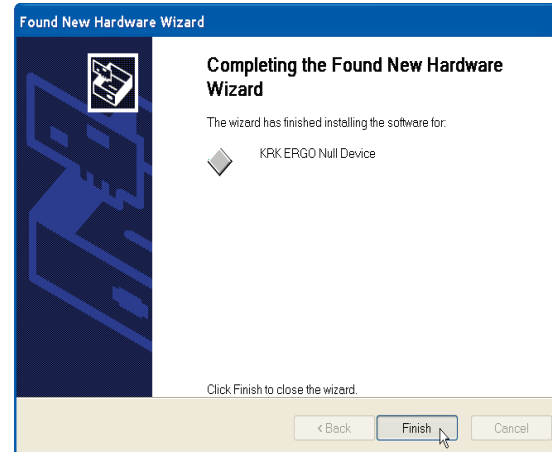

Figure 3.15
10. Click **Finish** to close the wizard. Repeat 8-10 if necessary. (Figure 3.15)